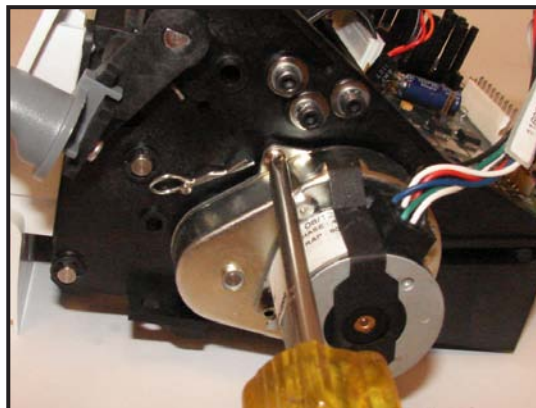

Figure 6-50
3. Use a Phillips screw driver to loosen the two screws attaching the motor to the frame (See Figure 6-50).